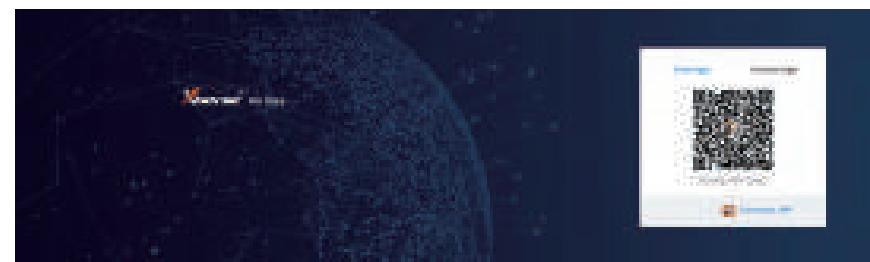

Fig.8.3.2
- ① Open <http://i.xhorse.com>
- ② Scan the QR code to log in as shown in Fig. 8.3.2.